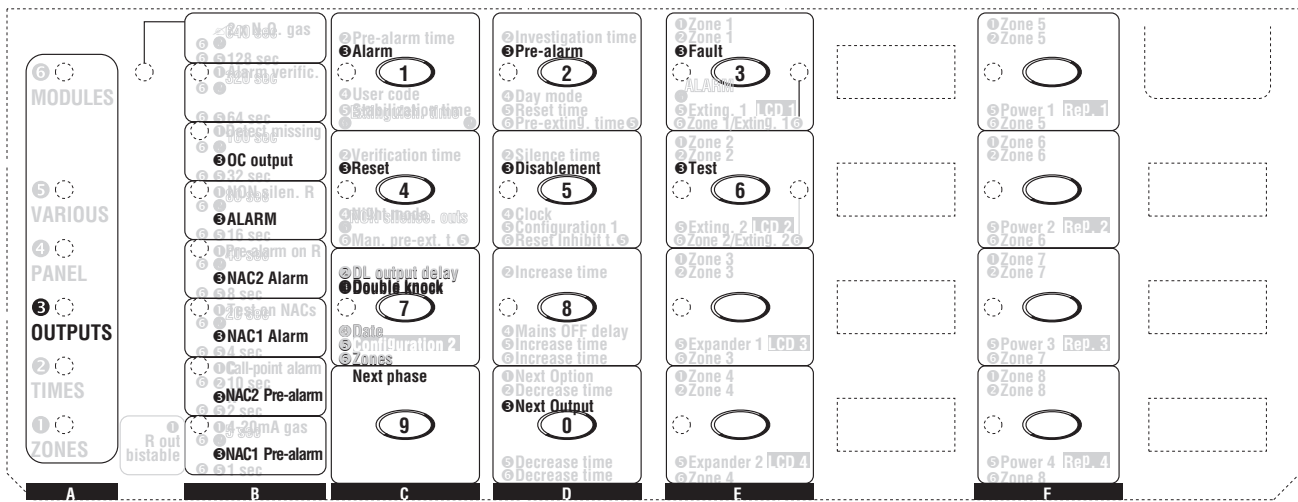

Figure 32 The “Outputs” Programming Phase
The **OUTPUTS** LED will blink to indicate that the system is ready to configure the Output Pulse Pattern (represented by LEDs 1 through 8, each LED representing a second period in the pattern). During this phase, the keys and LEDs will operate in accordance with the options preceded by ④ in the panes on the Programming Overlay, see Figure 32.
- Using the **Next Output** key (0 column D) select the output you want to program. The respective LED will go On (see column B).
- Go back to step 1 to program another Output option or, press the **Next phase** key 9 to go to the following Programming Phase (see Column A).